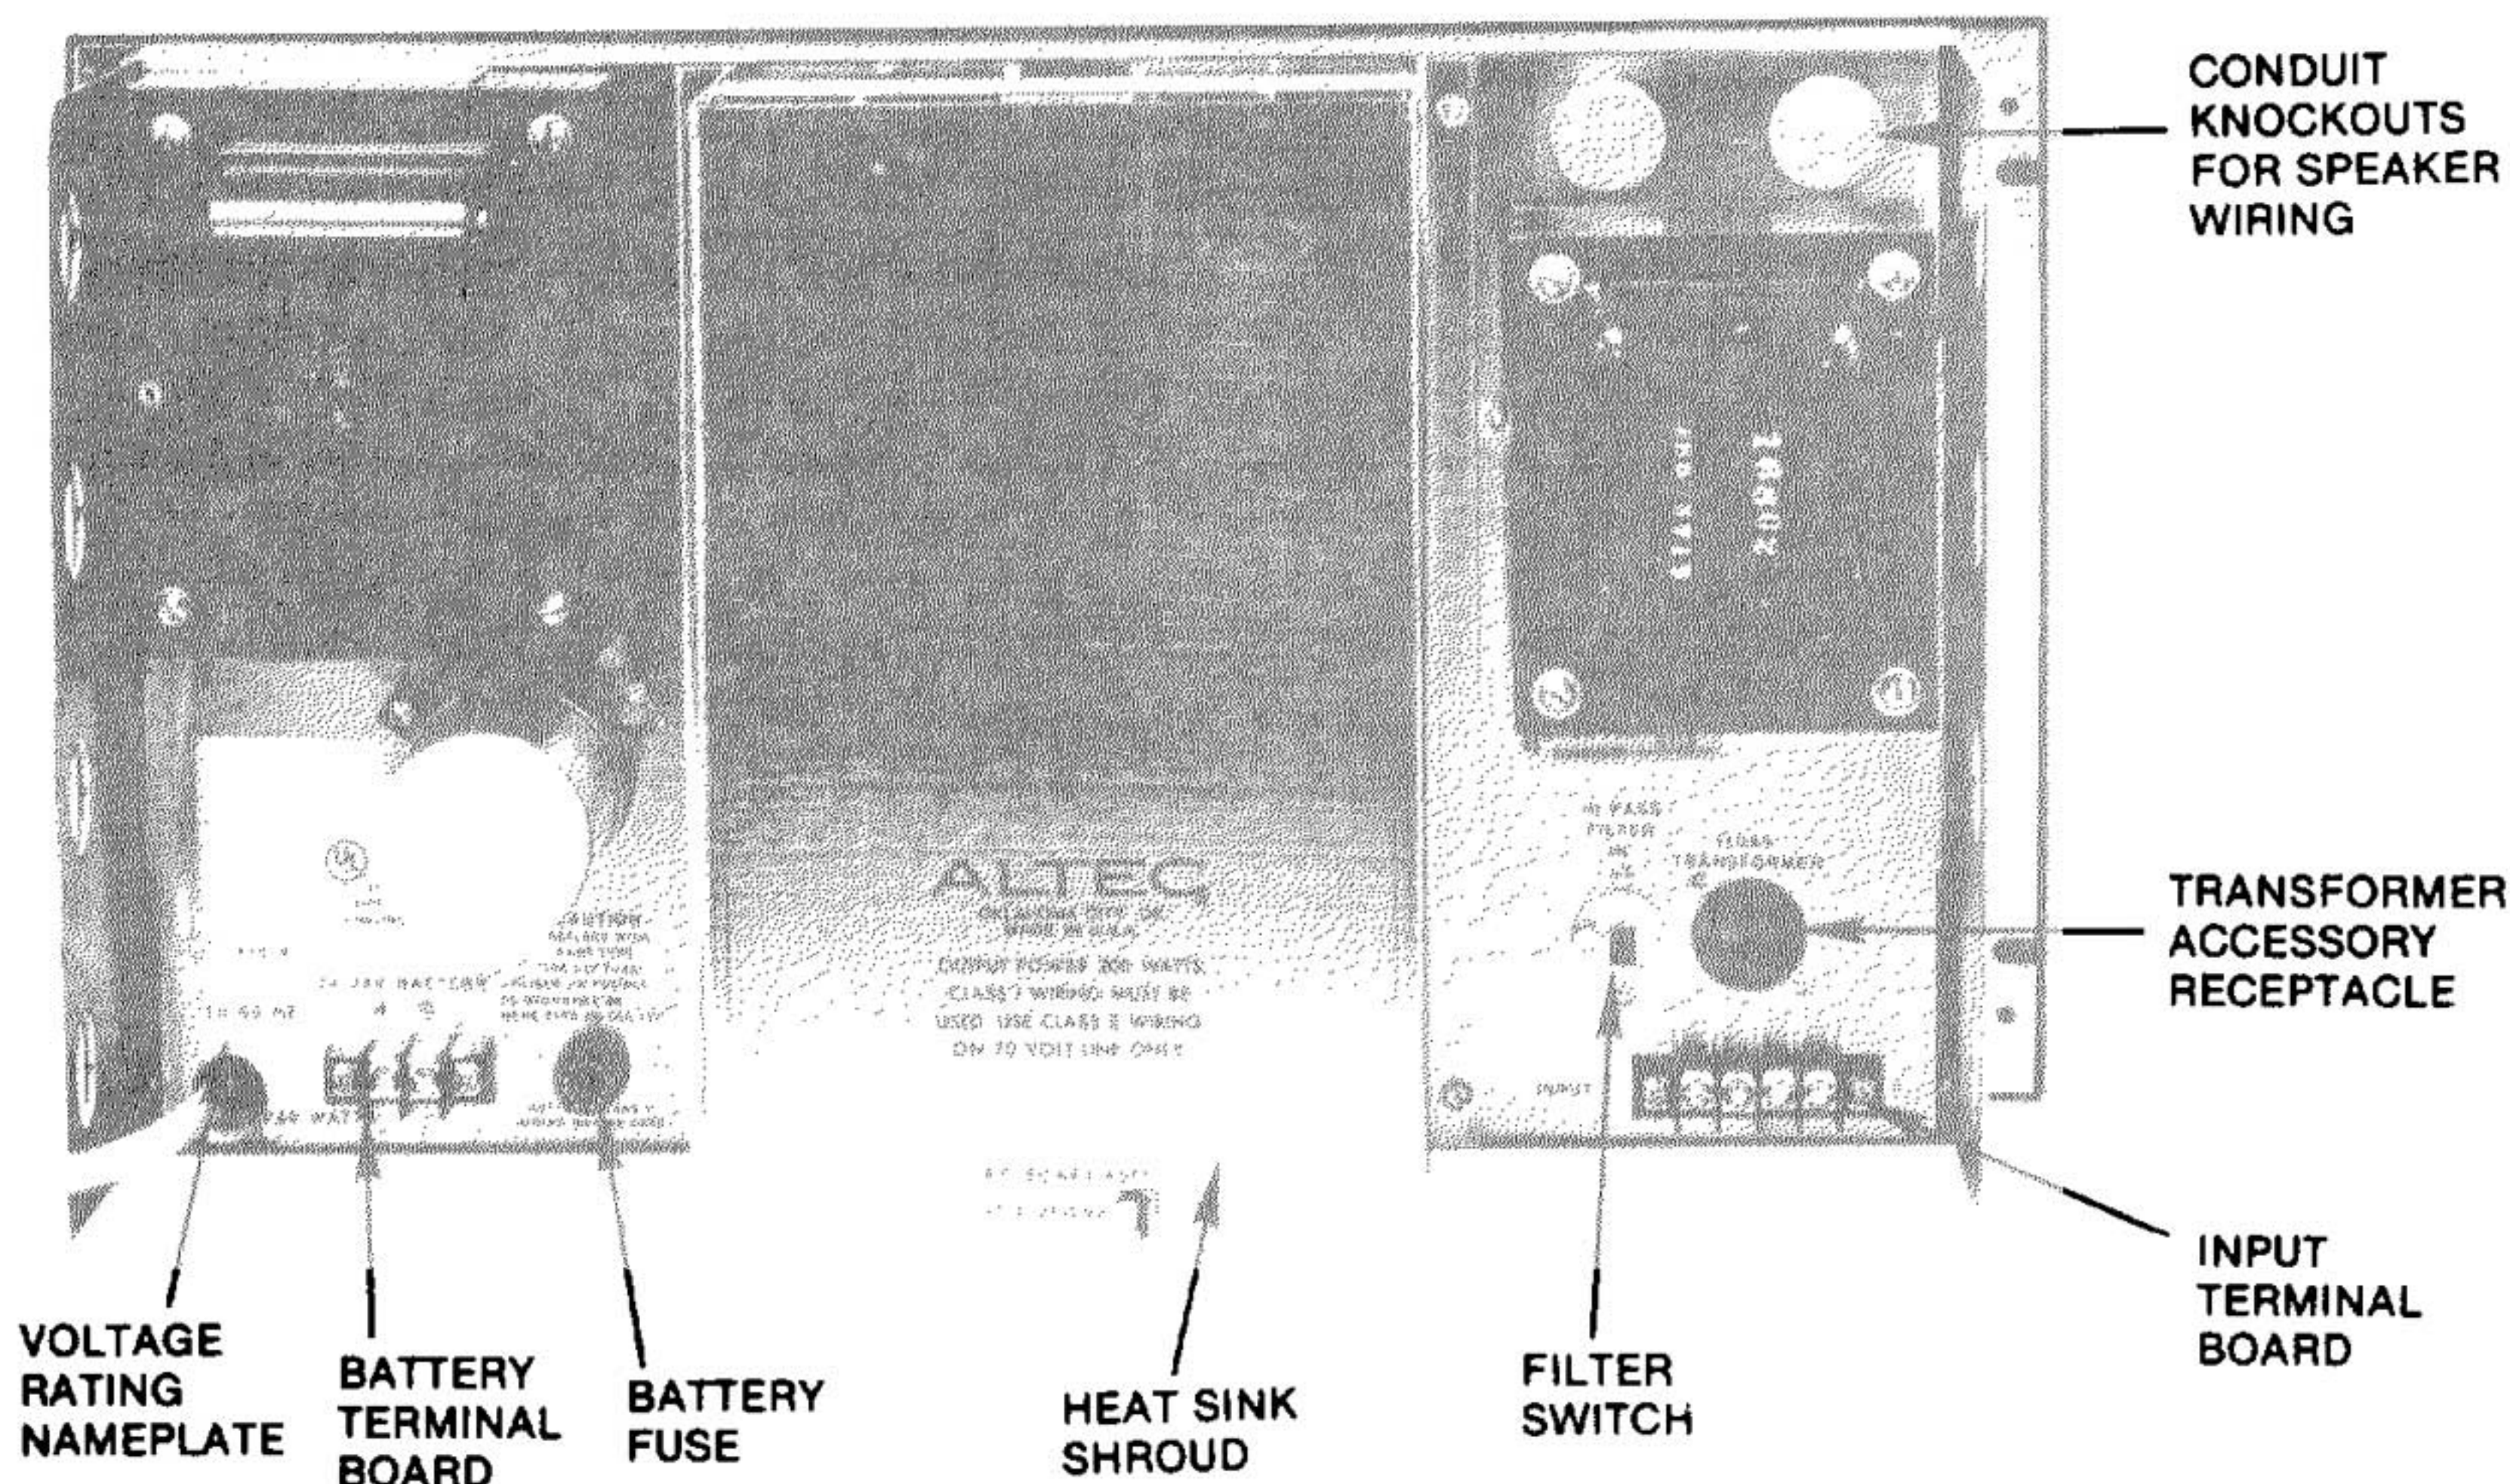
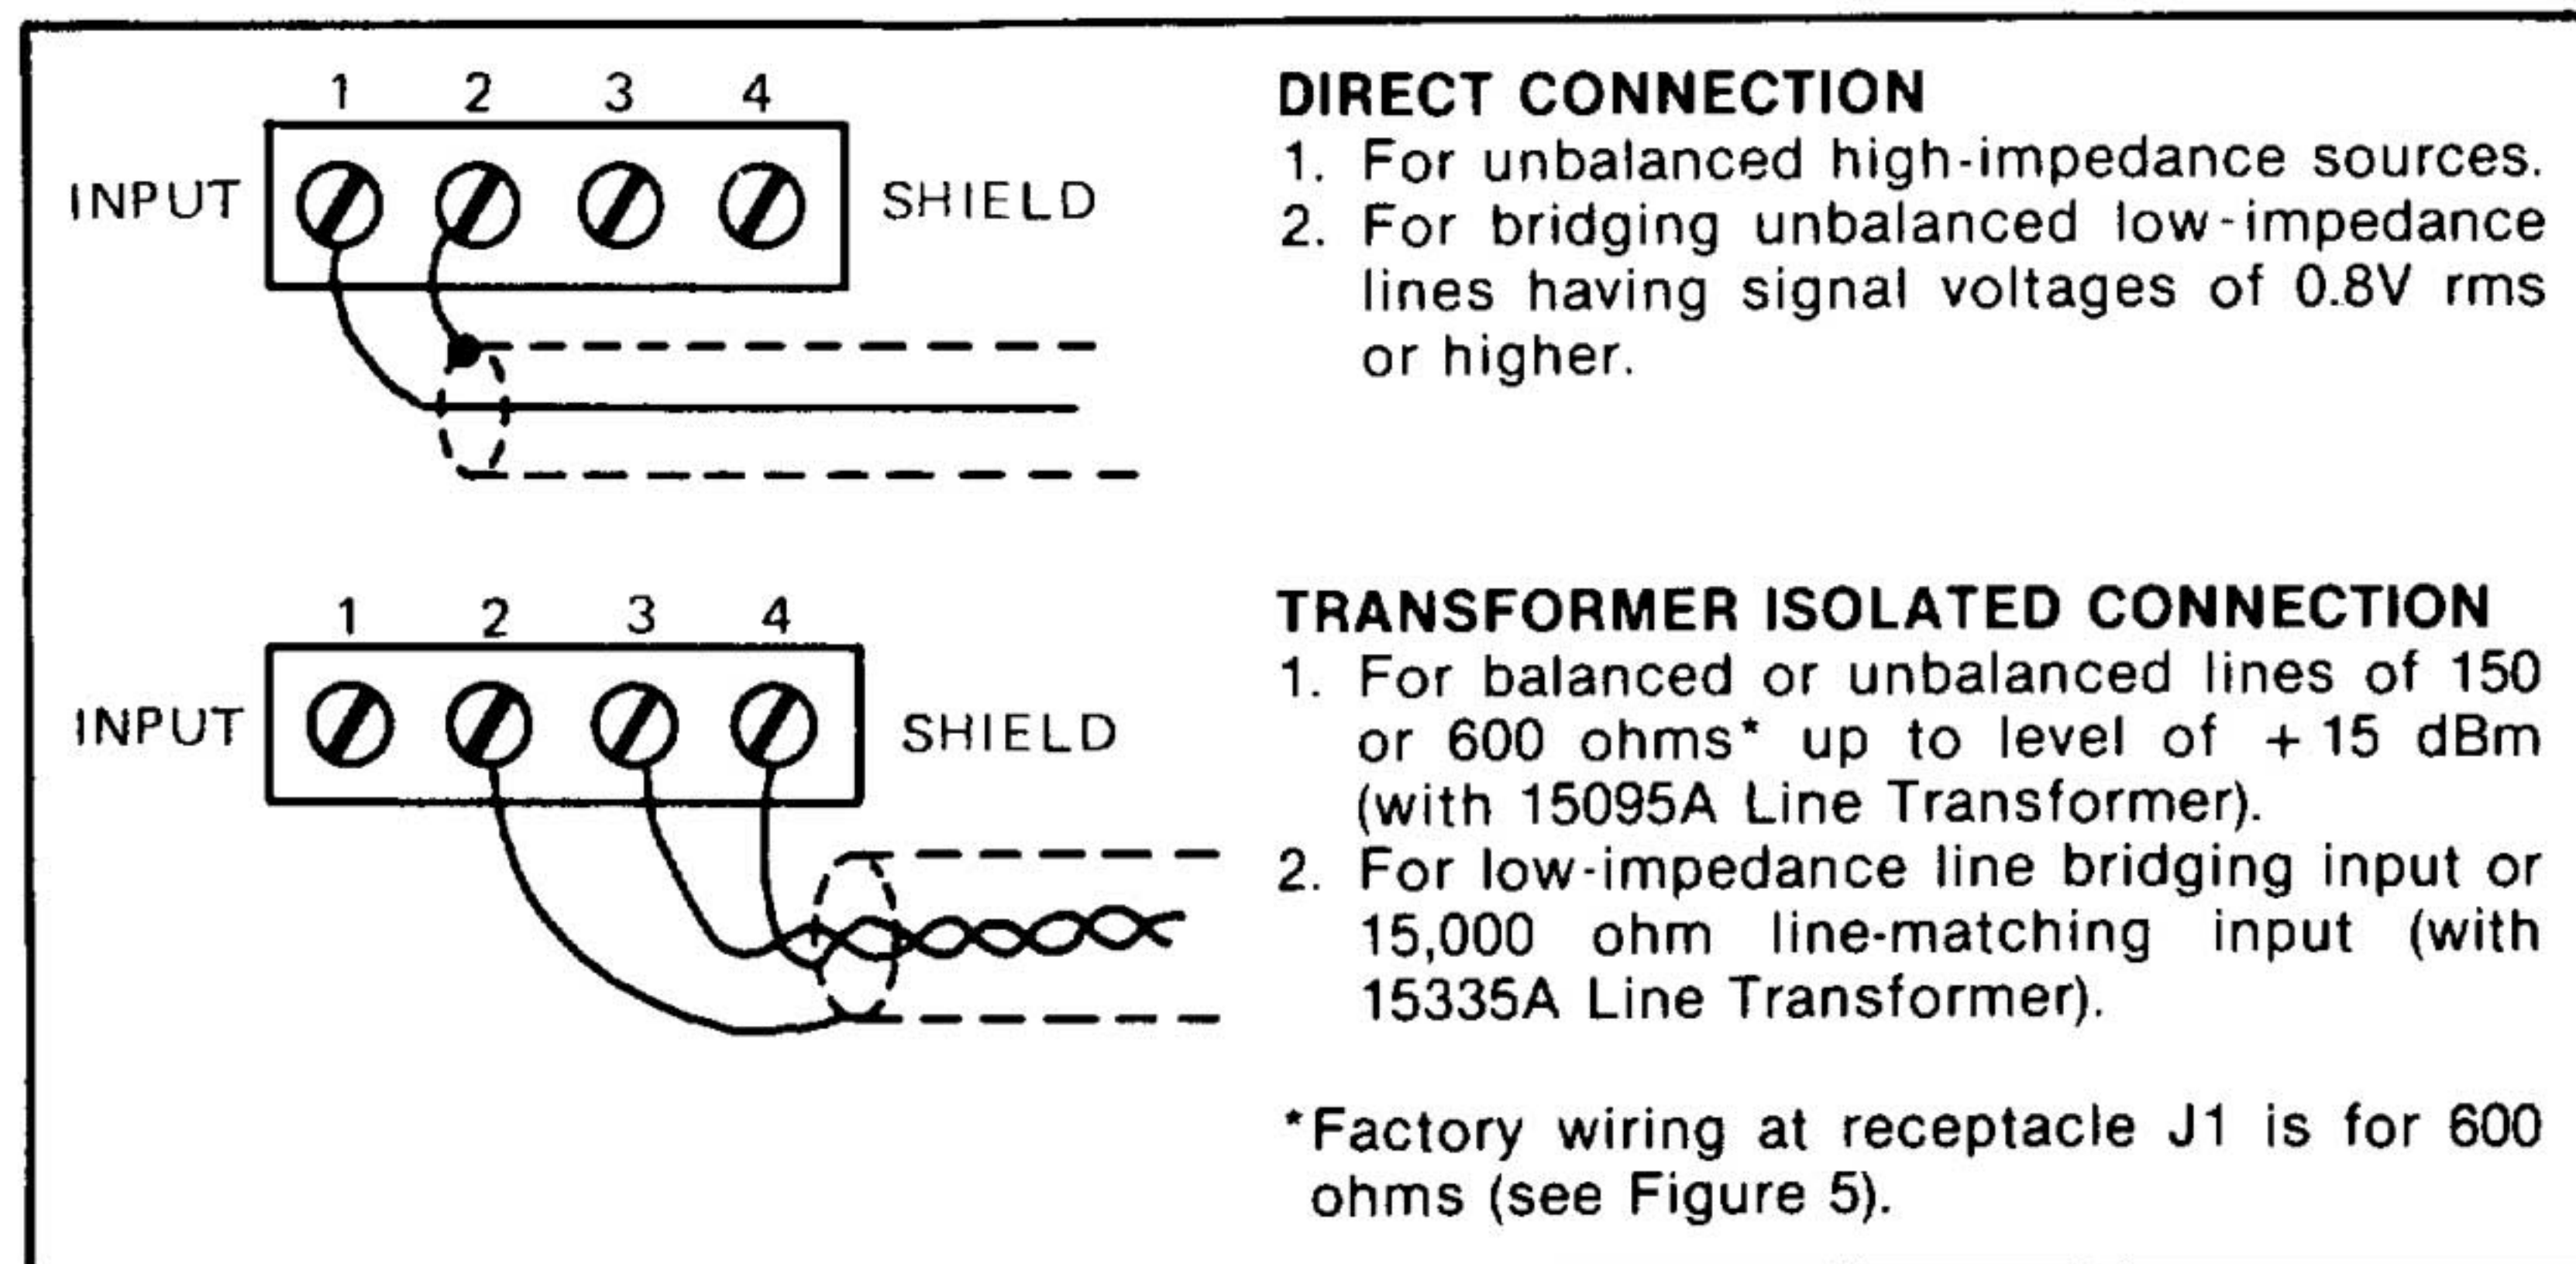

Figure 2. Rear View of 1590 Power Amplifier
Figure 4. Input Connections
Equipment supplied for domestic use is provided with the power transformer primary strapped for 120 volts. The power input nameplate, on the rear of the chassis adjacent to the power cord, is mounted to show the appropriate side specifying the connections (see Figure 2). Verify that line voltage is in accordance with the voltage rating *before* connecting the 1590 to line power.
Export equipment requires restrapping of the power transformer primary for voltages other than 120V, 50/60 Hz. Specified voltage rating is located on the chassis, adjacent to the power cord. See Figure 2. Verify that line voltage is in accordance with the specified voltage rating before connecting the 1590 to line power.
4. Select the appropriate voltage rating label from the rating label strip supplied with the amplifier. Affix label over previous voltage rating designation on chassis. See Figure 2.
If desired, the 1590 may be connected to an external 24/28 volt battery with minus (-) as ground. Terminals for the dc power connections are on TB4 (see Figure 2). If ac power fails, transfer to dc power is instantaneous, automatic and silent. The battery power supply is not operated by the primary power ON-OFF switch on the front panel. If switching of battery power is desired, an external relay or switch should be provided by the user.
Input connections may be either direct or transformer-isolated at the INPUT terminal board (TB1) (see Figure 2). Direct coupling is accomplished by connecting the input leads (shielded conductor recommended) to terminals 1 and 2. Terminal 2 is ground (see Figure 4).
For transformer-isolated input, a plug-in 15095A or 15335A Line Transformer must be plugged into receptacle J1 (see Figure 2).
The input leads are connected to terminals 3 and 4 of the INPUT terminal board (see Figure 4).
Output transformer taps provide connections for 25V (140 watts), 30V, 70.7V, 100V, 140V and 200V distribution systems. Class I wiring must be used for 100V, 140V and 200V systems. Class II wiring may be used only for the 30V and 70V systems. Connections are made at terminal board TB2 located within the chassis (see Figure 6). Wiring from the speaker system feeds through the chassis to TB2; 1/2" conduit knockouts in the chassis provide access to output terminals of TB2 and permit termination as required for Class I wiring (see Figure 2).
The ac primary power fuse is mounted on the front panel (see cover photo). The battery power fuse is located on the rear of the chassis (see Figure 2). If replacement of either fuse is required, determine and correct any cause of failure before replacing fuse. Install only an identical fuse (see PARTS LIST) by unscrewing fuse holder, replacing fuse and resealing fuse holder.
Power transistors Q1 through Q8 are installed on a heat sink, located beneath the heat sink shroud (see Figure 2). Turn off power to the amplifier before removing shroud.